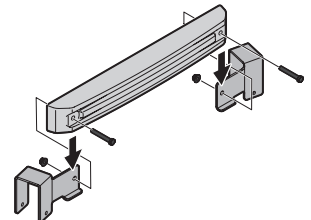

Figure 37
- Attach the left mounting bracket and the right mounting bracket to the weight bar using two 2-1/2" screws (710-0859) and 3/8" flange nuts (712-04065) from hardware pack 689-02200. See Figure 37.